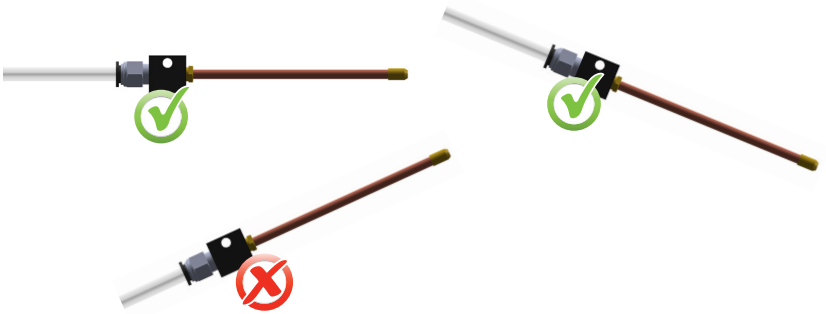

Figure 32: Proper nozzle positioning
- Mounting the nozzle coupler block at an angle so fluid flows down into, and eventually out of, the nozzle. See Figure 32 below for an example of proper nozzle coupler block mounting.